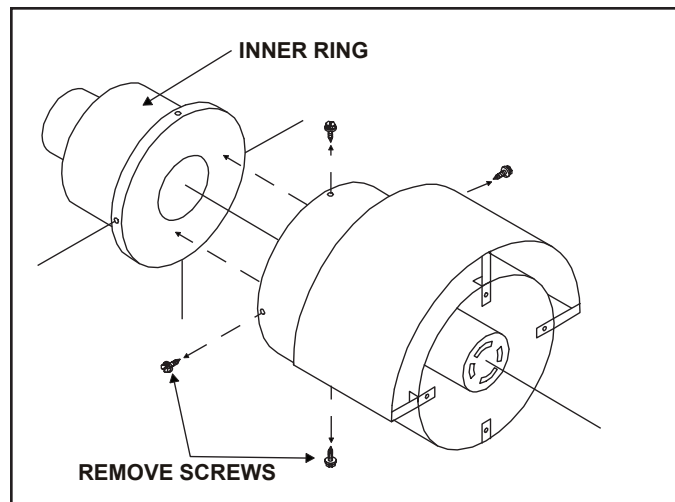

Figure 7.41
- E. Remove the sheetmetal screws from the 10-1/2 in. diameter pipe and remove the inner ring from inside the collar. See Figure 7.41.